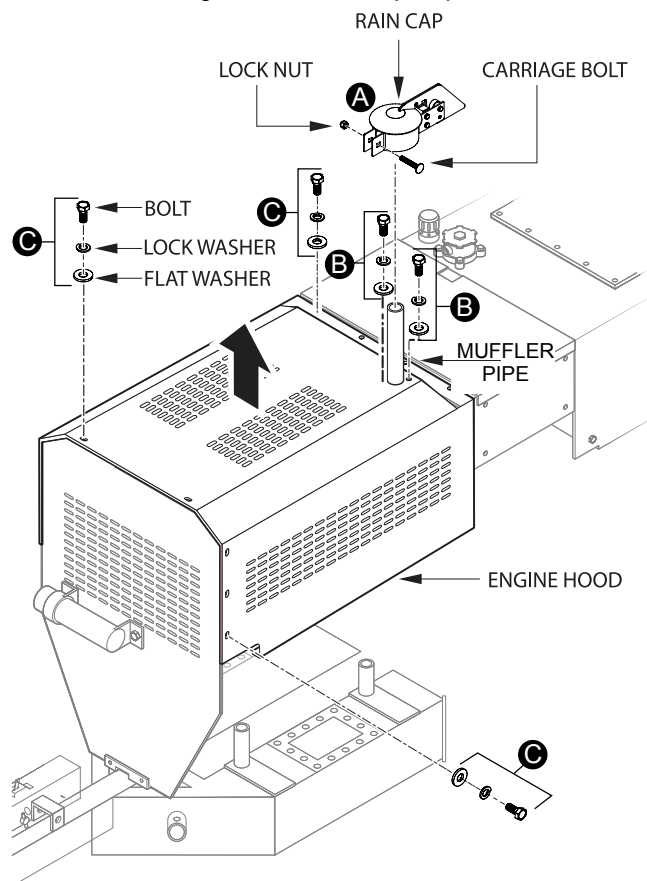

Figure 1. Hood Removal
3. Remove the rain cap (A) from the muffler pipe as shown in Figure 1.
4. Using a 1/2-inch socket, remove the 2 bolts (B) that secure the exhaust pipe to the engine cover.
5. Using a 7/16-inch socket, remove the bolts (C) that secure the engine hood to the pump.